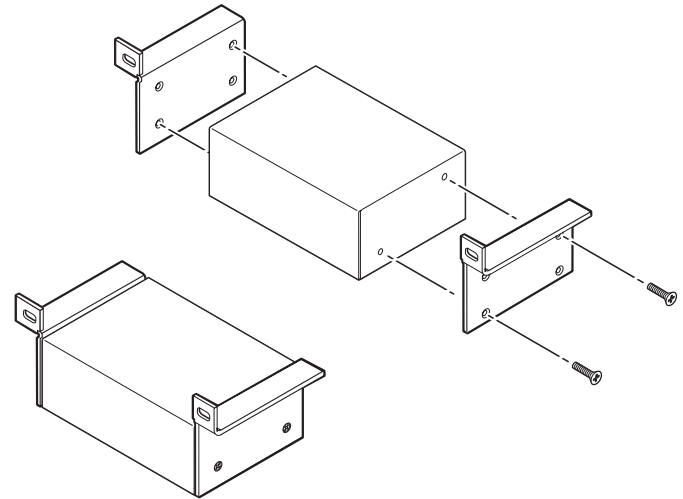

Figure 2-4 — Attaching the back of rack mounting brackets to the YCS 100
3. Attach one bracket to the side of the unit, using the longer screws included in the mounting kit (see figure 2-4, on the next page).